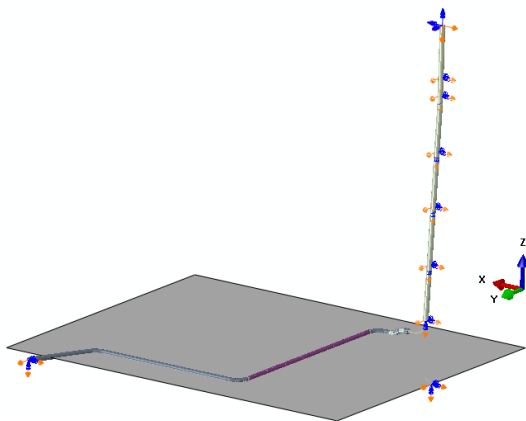

Figure 4. Riser global stress analysis
- Subsea pipeline/risers numerical stress analysis (Figure 4).